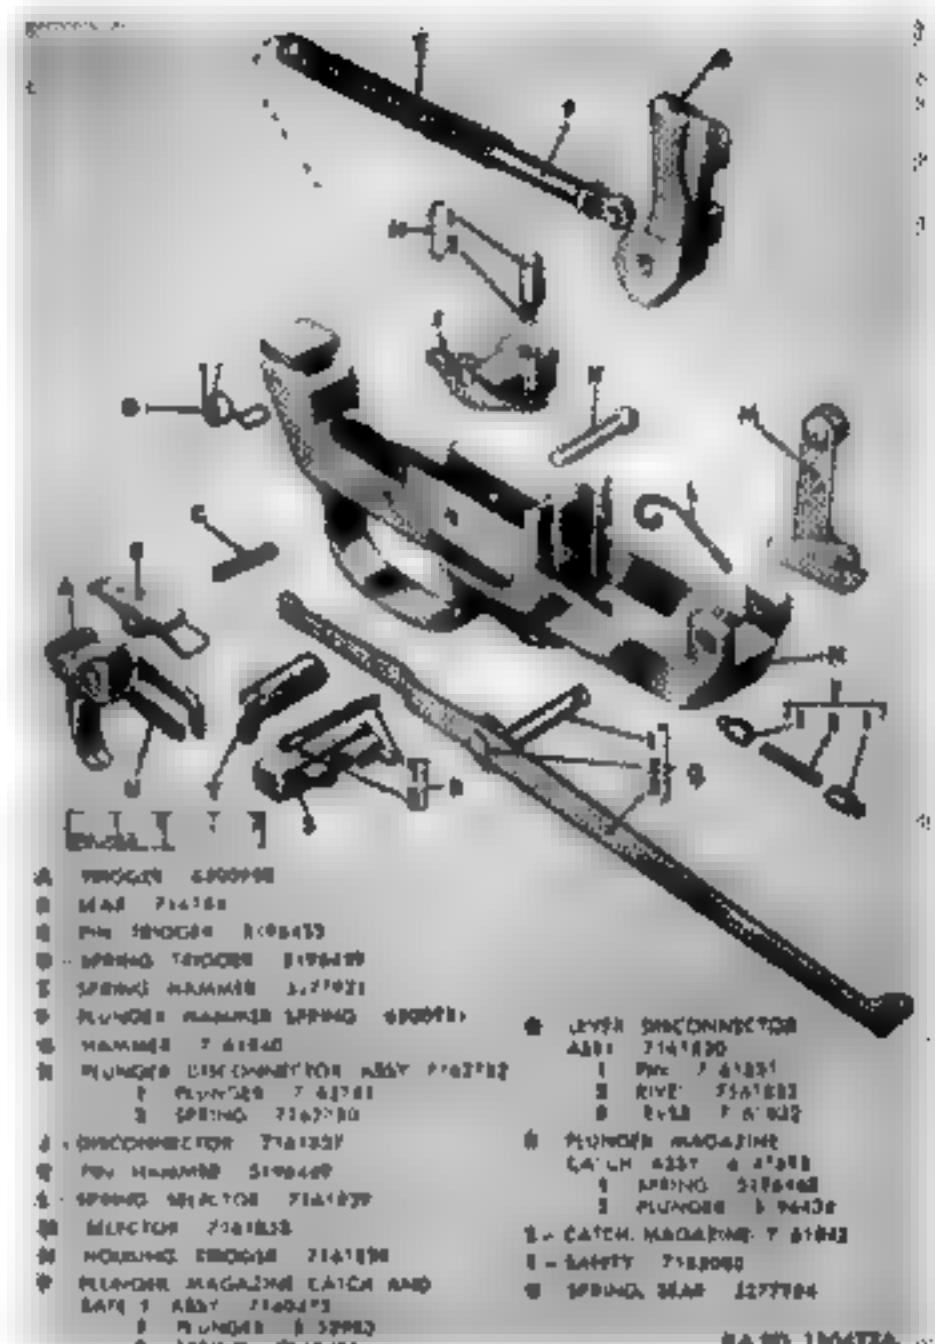

Figure 56. Trigger housing group — carbines M2 and M3
b. Trigger Housing (Fig. 56). See page 62 for inspection of the trigger housing. Also inspect the selector spring retention slot in left magazine post for foreign matter and positive spring seating so that spring will not turn when assembled.
c. Hammer (Fig. 56). See page 63 for inspection of the hammer. Also inspect milled cut on lower right side of hammer, which allows clearance for disconnector, for burrs and wear (Fig. 49).
d. Trigger (Fig. 56). See page 64 for inspection of the trigger.
e. Trigger Spring (Fig. 56). See page 64 for inspection of the trigger spring.
f. Sear (Fig. 56). See page 64 for inspection of the sear. Also inspect top front portion (camming surface for disconnector) for burrs and wear.
g. Sear Spring (Fig. 56). Check sear spring for positive seating in trigger and gear. Check for functioning, rust and set. Visually inspect during repair. Replace during rebuild.
h. Safety (Fig. 56). See page 65 for inspection of the safety.
i. Magazine Catch (Fig. 56). See page 66 for inspection of the magazine catch.
j. Disconnector (Fig. 56). See that bearing slot in front end of disconnector is free from foreign matter and burrs and is lightly lubricated. See that disconnector spring is not weak, rusted, or broken, that spring well is free of foreign
k. Disconnector Lever Assembly (Fig. 56). Examine the rivet of the disconnector lever assembly which pivots the lever in the flat crank shaped end of the pin, to determine that the rivet is secure, that the hole in the crank of the pin is not enlarged, that this pivot is free from burrs, and is not worn. See that lever is not distorted or twisted on rivet, that it is free to rotate on the rivet and that ends are free from burrs and wear. Offset in rear section of lever is for alignment with disconnector and should not be straightened. Be sure toe (front end) of lever bears squarely on cam on operating slide and is (slide retracted) under raised boss when lever is fully seated in the housing. See that holes in trigger housing for pin of disconnector lever assembly are not enlarged.
m. Selector and Spring (Fig. 56). See that disconnector pin slot in selector is not worn so it will cause lost motion or impair security. See that spring recess in rear end is free from foreign matter and will retain spring securely. See that selector spring is bent in only one plane (not twisted) and both ends seat securely in their retention recesses. If spring is loose when assembled, straighten slightly.